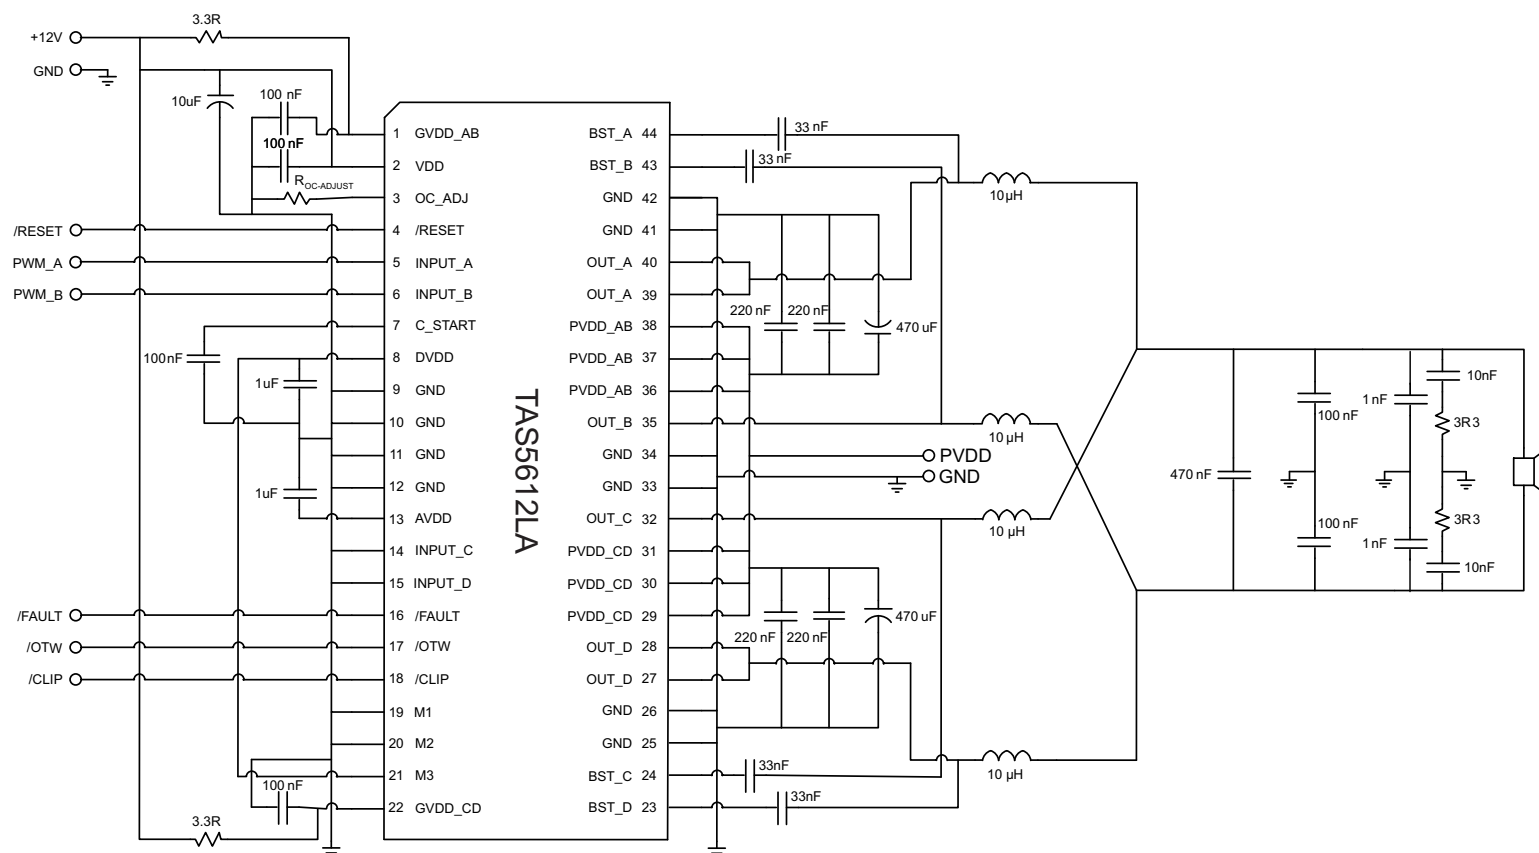

Figure 19. Typical Differential (2N) PBTL Application With AD Modulation Filter
See Figure 19 for application schematic. In this application, one differential PWM input is used with AD modulation from the PWM modulator such as the TAS5558. AD modulation scheme is defined as PWM(+) is opposite polarity from PWM(-). The output PBTL configuration is often used to drive lower impedance load such as a subwoofer.
- Pins 27, 28, 32, 35, 39, 40 - Output pins from half-bridges A, B, C, and D. Connect appropriate bootstrap capacitors and differential LC filter as shown in Figure 19.
- Pins 29, 30, 31, 36, 37, 38 - Power supply pins to half-bridges A, B, C, and D. A and B form a full-bridge and C and D form another full-bridge. A 470-uF bulk capacitor is recommended for each full-bridge power pins. Two 0.22-μF decoupling capacitors are placed on each full-bridge power pins. See Figure 19 for details.